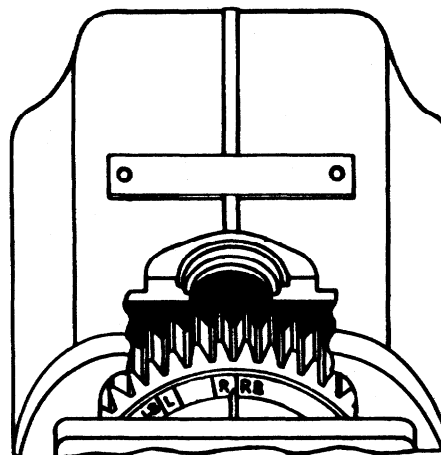

Figure 4. Alignment of Timing Mark on Distributor Gear — 6 Cylinder, Retard Breaker, Right Hand Rotation
- c. "6" Cylinder, retard breaker types — The timing rib on distributor block MUST lie between the "L" and "LB" or the "R" and "RB" marks on the gear, and should be nearer to the "LB" or "RB" mark, depending on magneto rotation. (See figure 4)